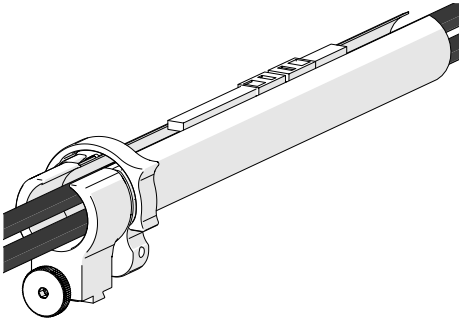

Fig. 79 - Zip opposite end
3. Once the cable is placed the entire length of the tube, bring the zipper from the tube's opposite end, meeting at any point in the middle (Fig. 79).